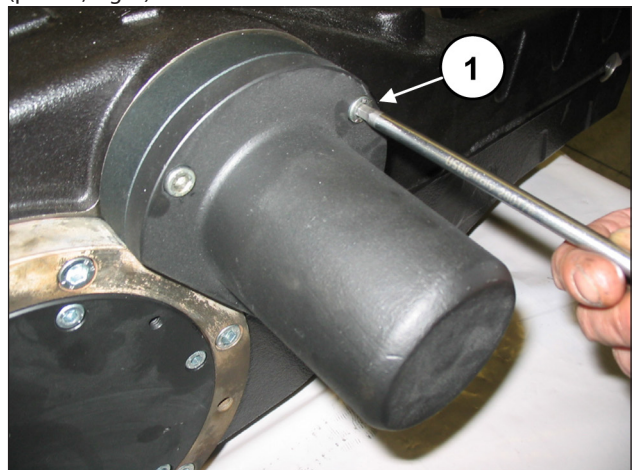

Fig. 9
Unscrew the attachment screws of the shaft end cover (pos. ①, Fig. 9) and take the cover off the PTO shaft.